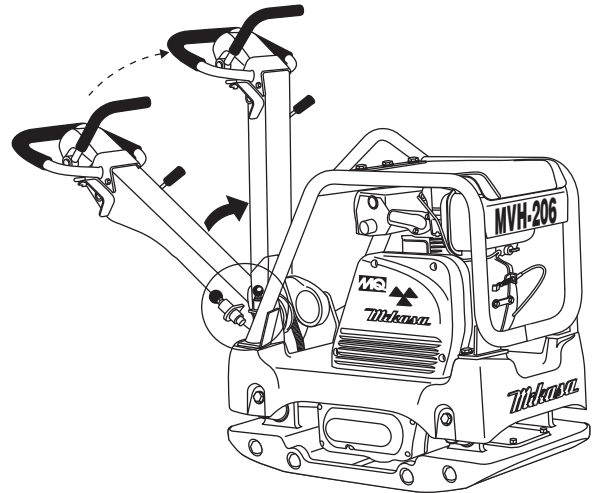

Figure 19. Stowing the Handle
1. Push up the handle upward (Figure 19) until the handle locks in place.